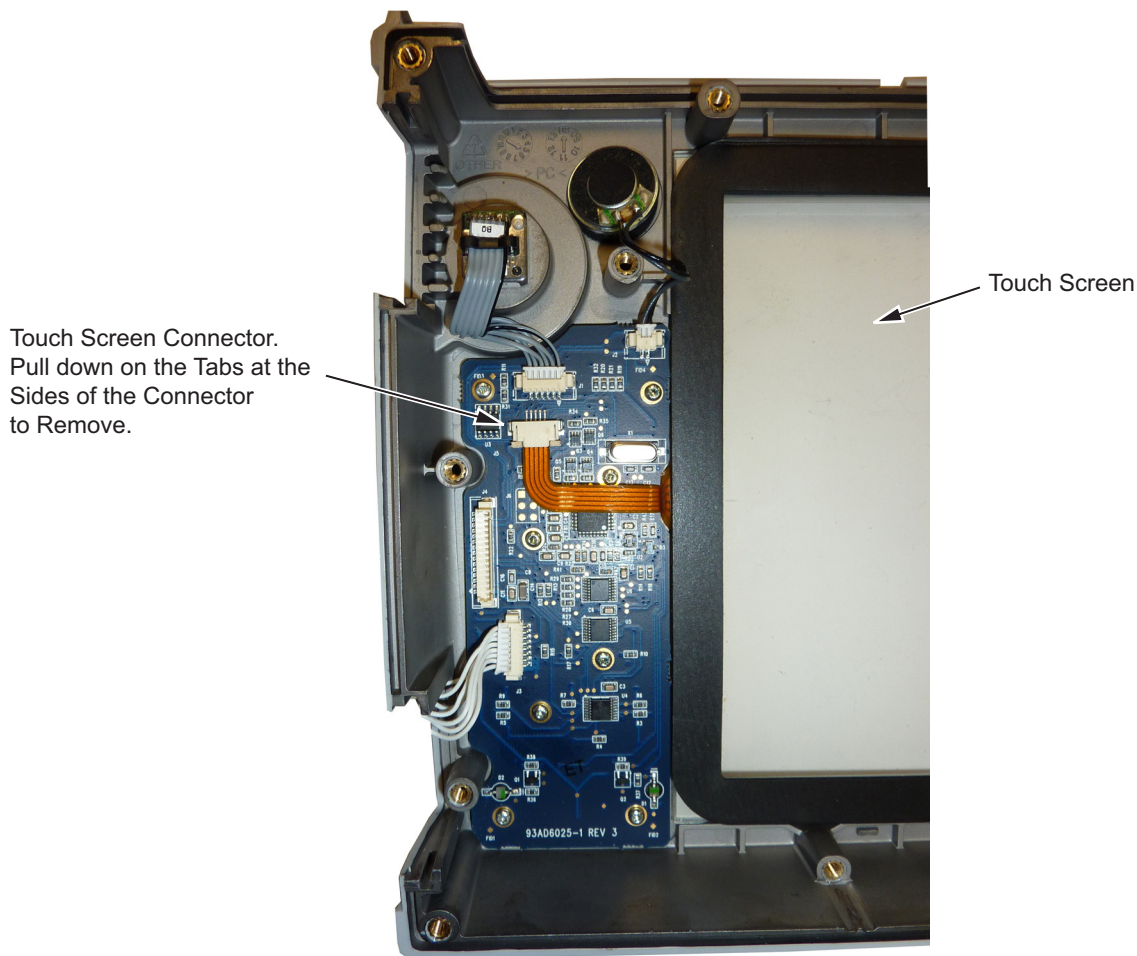

Figure 5-17. Replacing the Touch Screen
4. Remove the touch screen flex circuit cable from the keypad PCB by pulling the tabs on each side of the connector away from the connector and in the direction of the flex circuit. Refer to Figure 5-17.